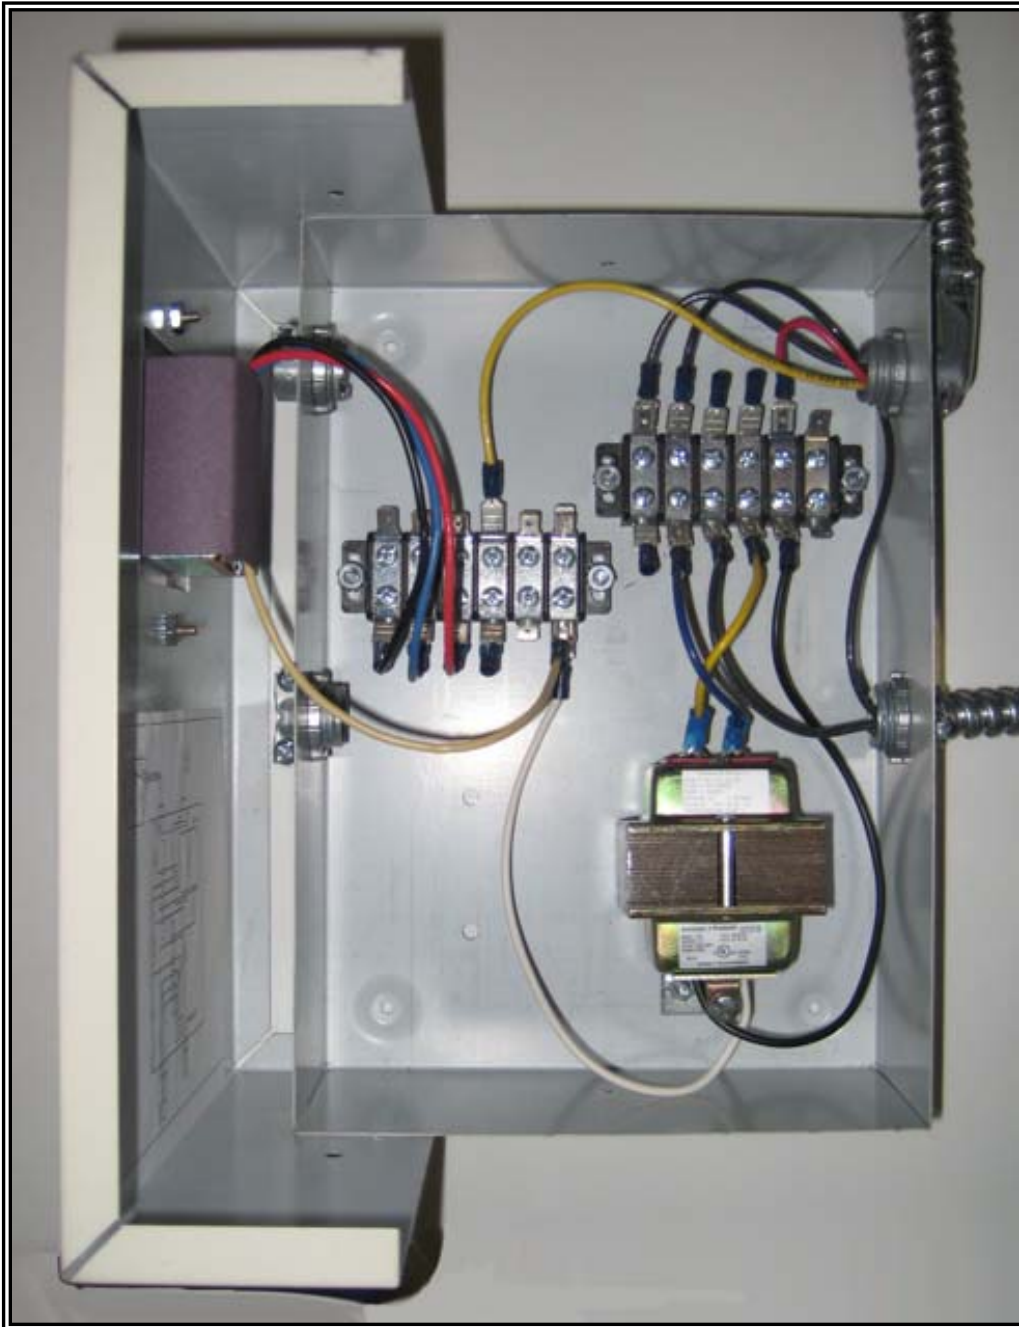

Figure 3: Control Box for Automatic Draft
- a. Remove the control box cover. See *Figure 3: Control Box for Automatic Draft*, *Figure 4: Control Box for Forced Air Draft*, or *Figure 5: Control Box for Manual Draft*.